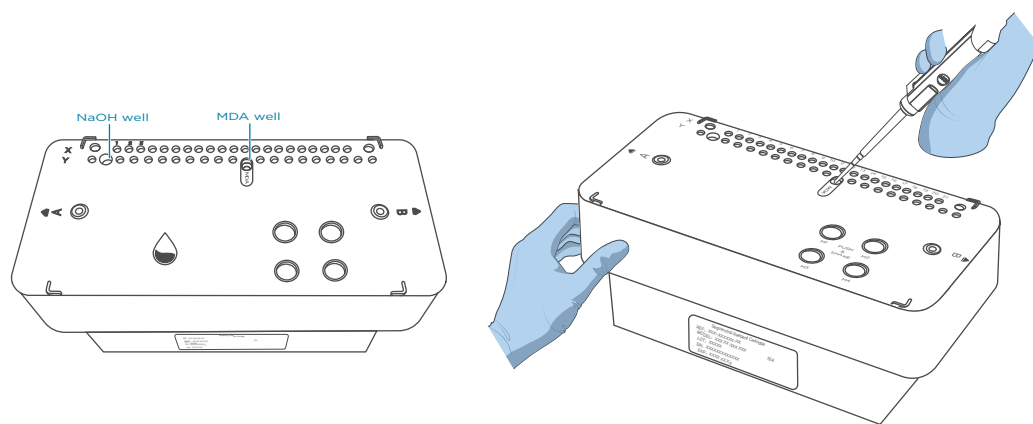

Figure 12 Adding MDA mixture
7. Pierce the seal of MDA well by using a clean 1 mL sterile pipette tip. The position of MDA well is on *Figure 12 on Page 47*.